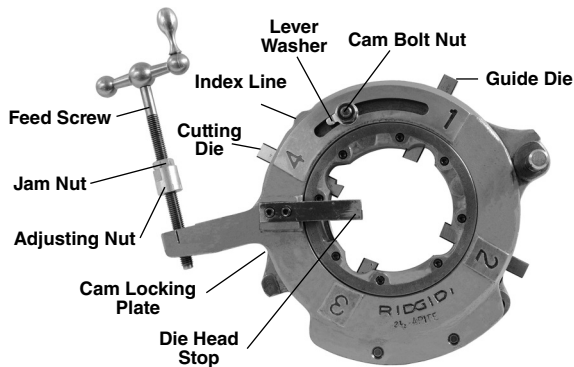

Figure 1 – 725 Cut-Grooving Die Head
6. Move cam bolt to align desired size mark with index line. Adjust die insertion as needed to allow movement. Washer tongue should be in slot to left (Figure 1). Tighten the cam bolt nut.